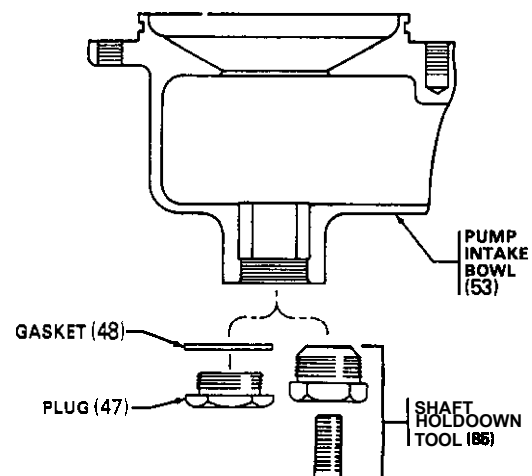

Fig 3
Remove the shaft holddown tool (85) and install the gasket (48) and plug (47) only after the pump is firmly mounted in its stand. **See** Fig 3.